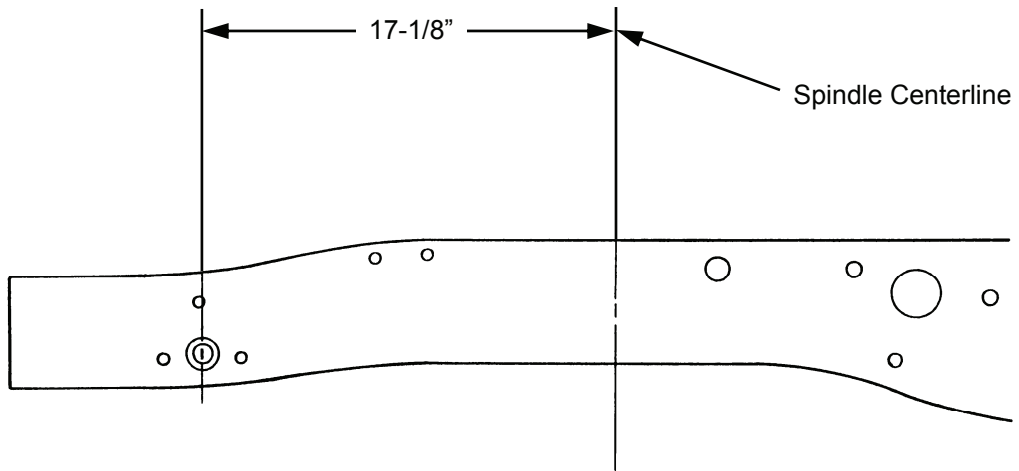

Figure 1
3. Position the truck at approximately the ride angle or rake that the truck will sit at when finished. Measure back 17-1/8" from the center of the front spring shackle hole in the frame and scribe a vertical line around the rails. See Figure 1. This will be the spindle center line, where the front wheels will be. As a final check, just to be safe, you could temporarily place a fender on the frame and stand a wheel in place in the opening, centering the wheel in the fender opening. Slide a bar or broom handle through the wheel center hole. It should fall on your correct axle centerline. If the crossmember is installed in the wrong place now, it can not be compensated for later. REMEMBER THE BASIC RULE-MEASURE TWICE, WELD ONE.